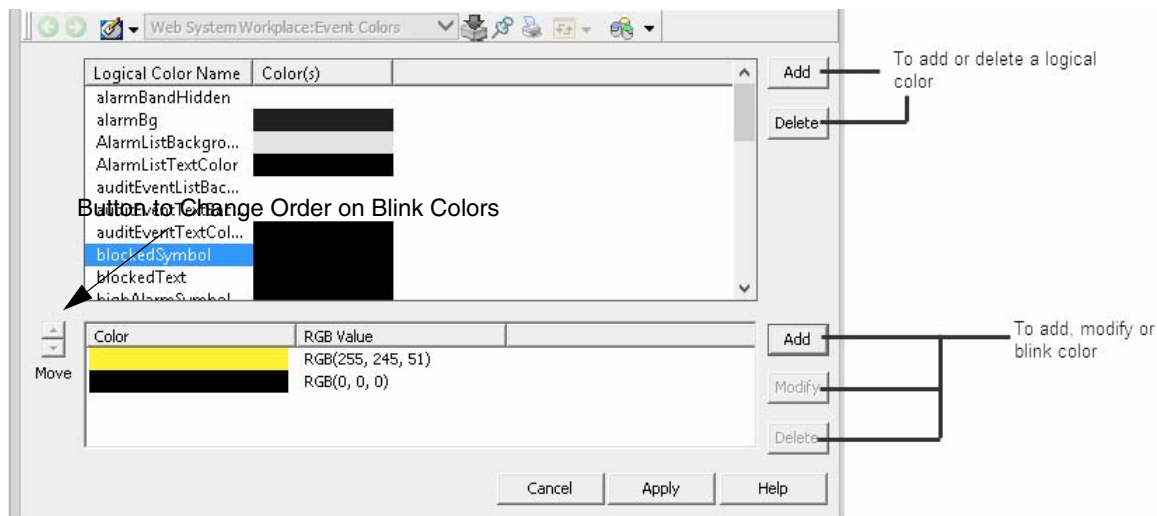

Figure 112. Logical Color Definition Dialog Box
- Select the new aspect and click **Add** in the Config View to define the name of a new logical color. See Figure 112. You can add up to 8 blink colors. The defined colors will be shown for 250 ms each.